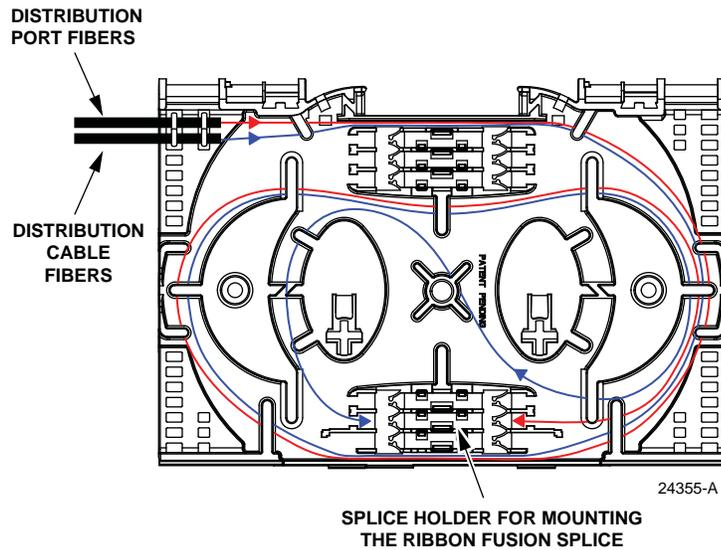
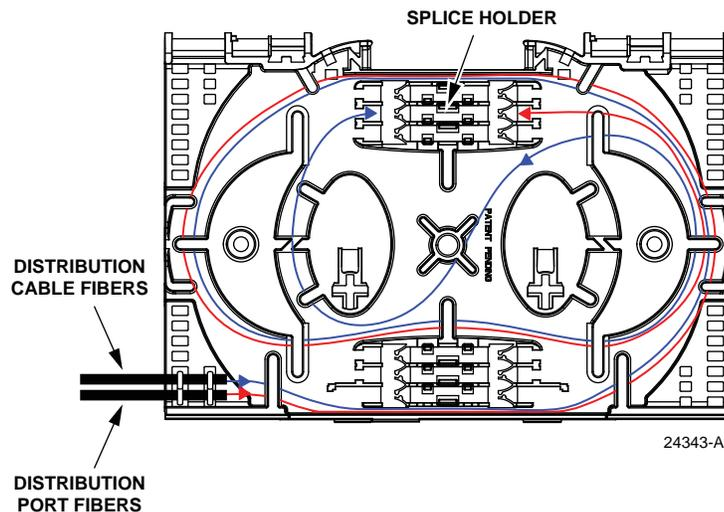

Figure 40. Splicing Ribbon Distribution Cable - Top Mounted Trays
Figure 41. Splicing Ribbon Distribution Cable - Bottom Mounted Trays
4. Adjust and route the two fiber ribbons within the splice tray and mount the splice chip. See Figure 40 for top-mounted splice trays. See Figure 41 for bottom-mounted splice trays.